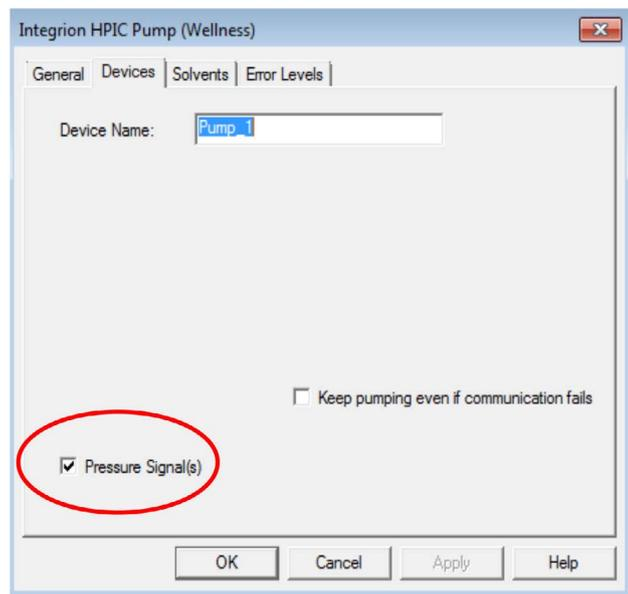

Figure 3. Adding the Dionex Integrion HPIC Pump Wellness module to instrument configuration.
3. Select the Devices tab and click on the pressure signal box (Figure 3).